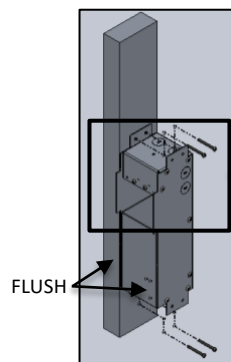

FIG. 13 - J-BOX ASSEMBLY TO WALL
4. Attach RECESSED JUNCTION BOX to WALL STUD or CEILING JOIST at desired height and location before drywall is installed as shown below in FIG. 13. Use appropriate anchor screws to secure to stud.